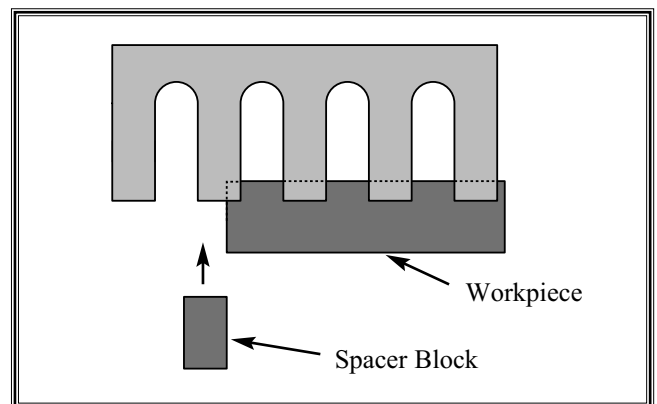

Figure 3. Spacer block.
- A. Position a spacer block equal to the width of the template size against the left edge of the workpiece as shown in **Figure 3**.